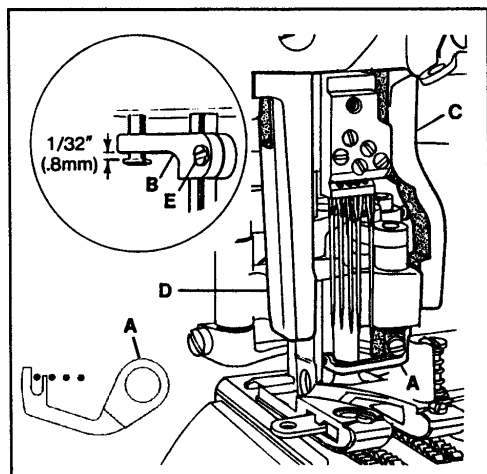

FIG. 20
Remove the presser bar regulating screw and the presser spring. Raise the needle bar to its highest position and remove the retainer. As the foot is slipped under the needles, swing the upper knife into the opening on the right side of the foot and slide the linkage onto the hook driving sleeve. Insert the presser bar through the linkage and into the presser foot shank. Tighten presser foot screw. With the presser bar inserted properly into the presser foot, position the foot left to right so the finger of cover thread carrier (A, Fig. 20) is between the first and second needles. Set presser bar guide (B, Fig. 20 Inset) so foot will not move. Set right presser foot guide (C) and left presser foot guide (D) to maintain setting. Loosen presser bar guide screw (E Fig. 20 Inset) and check to see that foot has vertical freedom with no right to left play, no bind. Put the needle bar in its lowest position, and set $1/32"$ (.8mm) above head of presser bar guide stud. Tighten presser bar guide screw (E).
Turn the handwheel in operating direction until link (A, Fig. 20) has traveled fully to the front. There must be a 1/64" (0.4mm) clearance between link (A) and the back of needle bar (B) when link (A) starts to jackknife. Loosen screw (C) and rotate driving sleeve (D) to position link (A). Tighten screw (C).